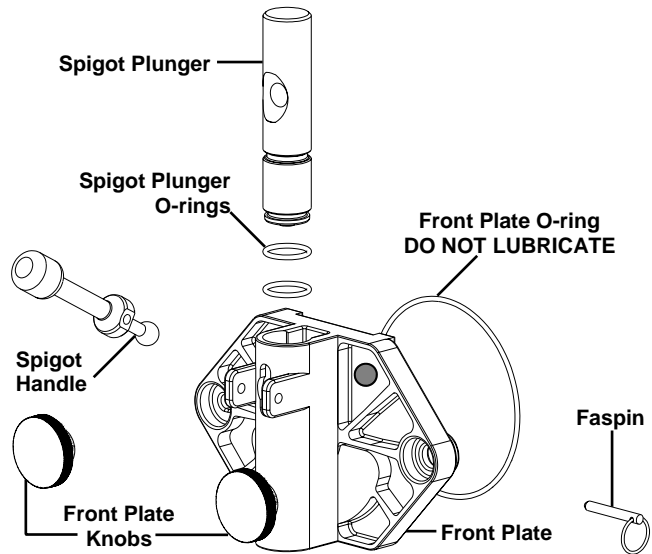

Fig. 19
- b. Slide the lubricated spigot plunger into the front plate (Fig. 19) making certain that the spigot handle slot is aligned to the front.